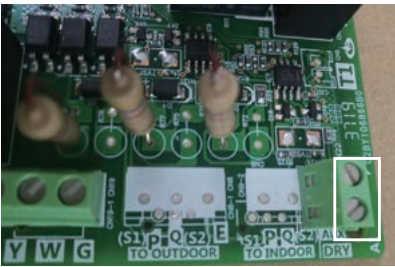

Fig. 29 — Connect the auxiliary heat wires
- Connect the low voltage control wires of the electric auxiliary heat module to the AUX terminals of the 24V module board (not polarity sensitive). Figure 29 shows the module board terminal.